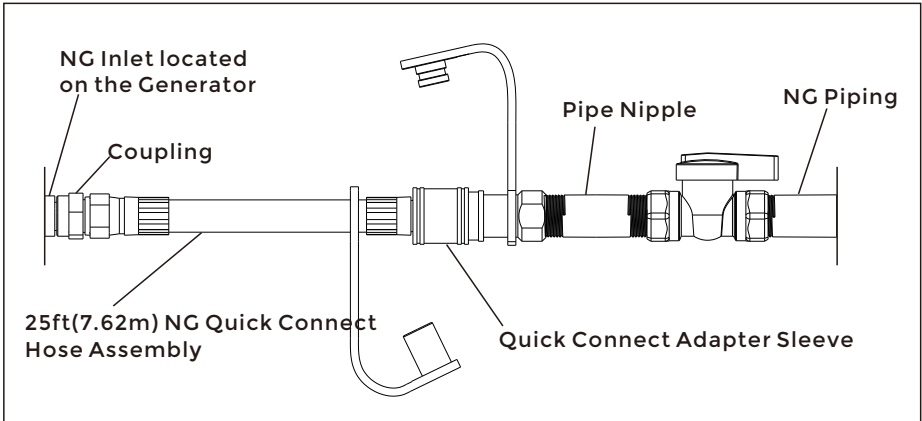

Figure 7
5. Connect the Coupling to Generator(Figure 7).